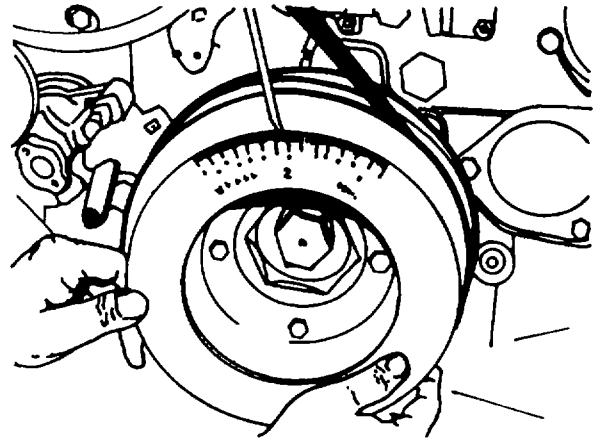

Figure 4-48. Zeroing Magnetic Protractor
6. Set pointer to 0 on scale (figure 4-48).